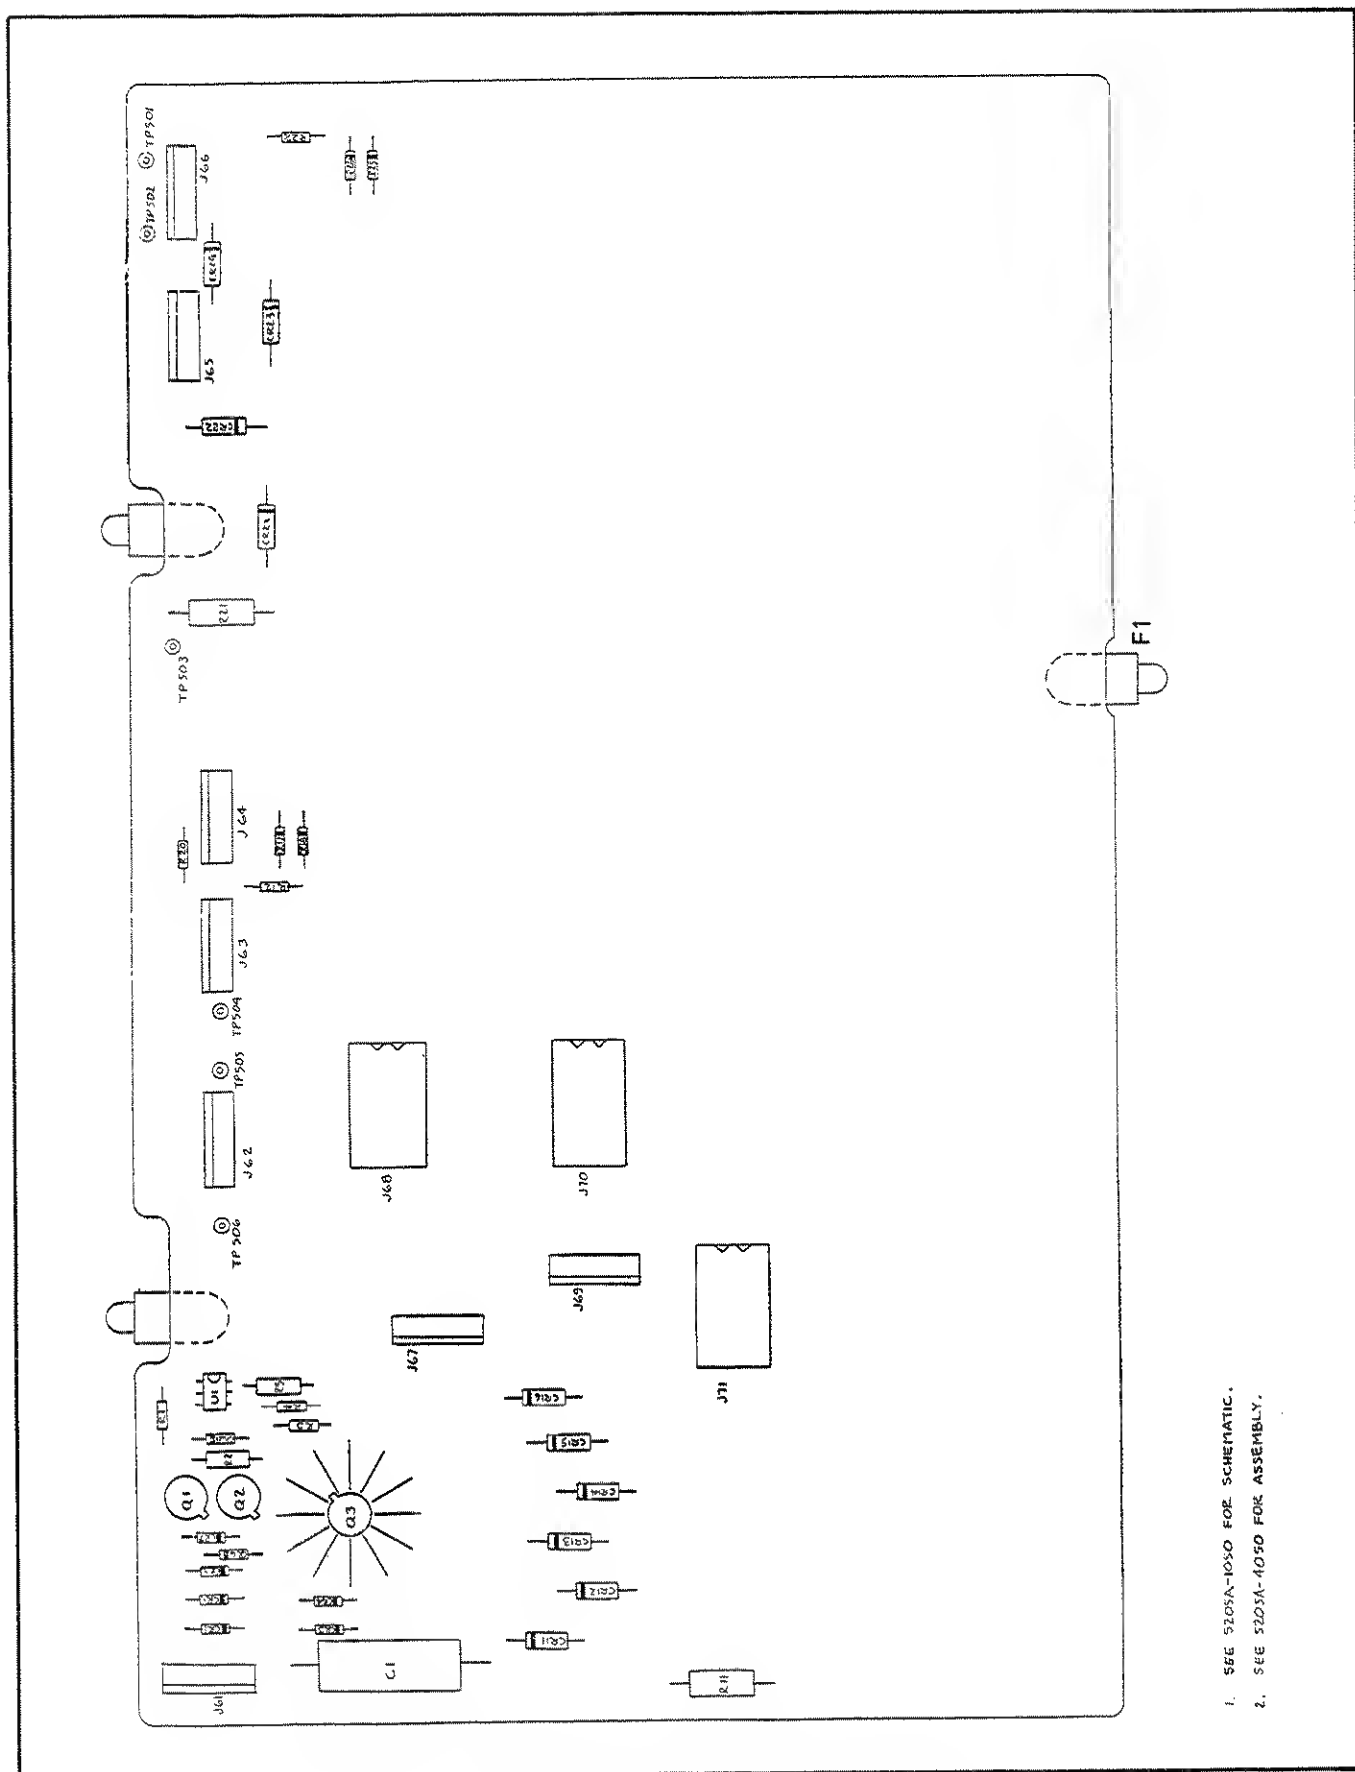

Figure 4-1. POWER SUPPLY TEST POINT LOCATIONS
- d. As a safety precaution, insure no stray voltages are present in the power supply, shorting TP501 to TP502, TP 504 to TP 506 and TP 505 to TP 506. These test points are on the power supply pcb and their locations are shown in Figure 4-1.